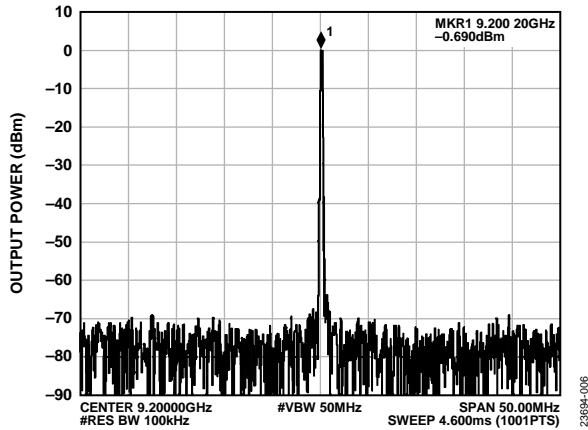

Figure 4. EV1HMC8074LP6G RF1 Output at VCO Band 1, VTUNE = 8.45 V, 9.2 GHz, Includes Insertion Loss of the RF Cable
Verify that the proper output frequency is observed on the signal source analyzer. An example output frequency is shown in Figure 4 in the Evaluation and Test section.
1. Enable the variable power supply and adjust the tuning voltage to 8.45 V. If the EV1HMC8074LP6G is configured properly, a signal at approximately 9.2 GHz with approximately 0 dBm to 2 dBm of output power appears on a spectrum analyzer or signal source analyzer. Refer to Figure 4.